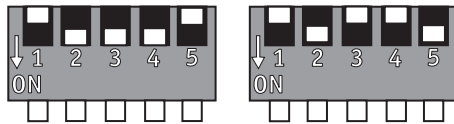

Figure 27 - Setting the dip switches
3. Change the DIP switch settings, assuring that they are different from the previously installed fan. Refer to Figure 27.